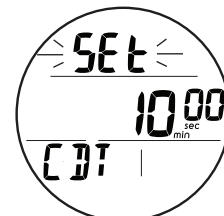

Fig. 139 - CDT STATUS (set, ready)
- S (< 2 sec) - to save the CDT setting and revert to the CDT Status screen with the graphic SEt flashing (Fig. 139).